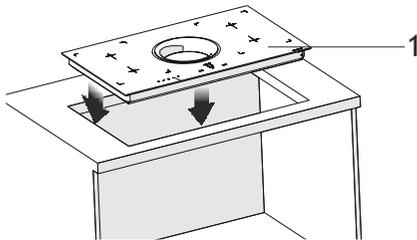

Fig. 17
2. ➔ ■ Place the hob carefully inside the discharge that you have prepared on the kitchen counter (Fig. 17).